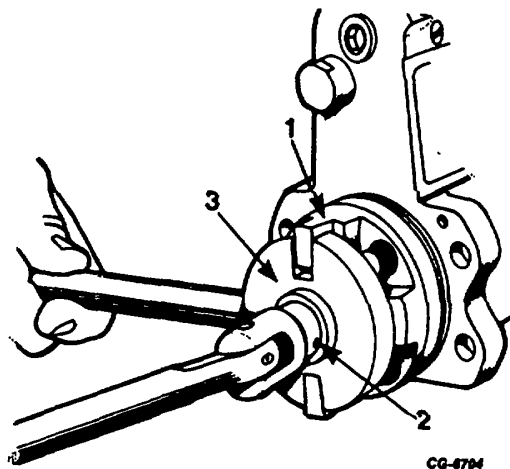

Figure 7. Installing Temporary Camshaft Flange
19. After placing woodruff key in camshaft slot, temporarily install drive flange assembly (Figure 7), IH part number 406 419 C91. Install washer and nut, using wrench SE-2339, and tighten to 81.3 - 97.6 N-m (6072 lb-ft). Torque the socket head set screws in drive flange to 24.4 - 33.9 N-m (1&25 lb-ft).